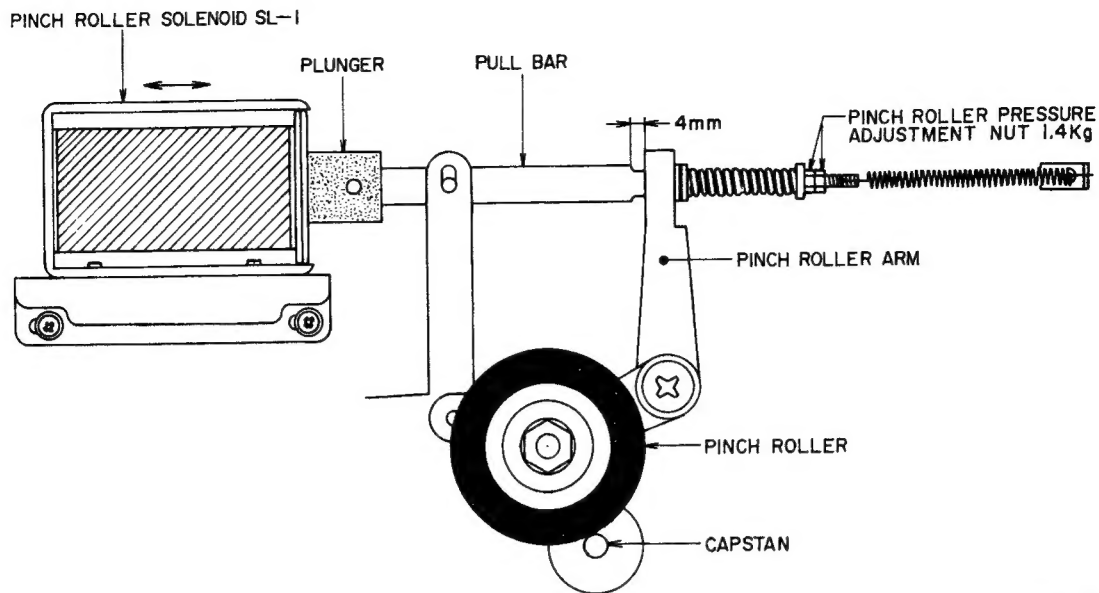

Fig. 3
3. POSITION ADJUSTMENT OF PINCH ROLLER SOLENOID SL-1 (Refer to Fig. 3)
4. PINCH ROLLER PRESSURE ADJUSTMENT (Refer to Fig. 3)